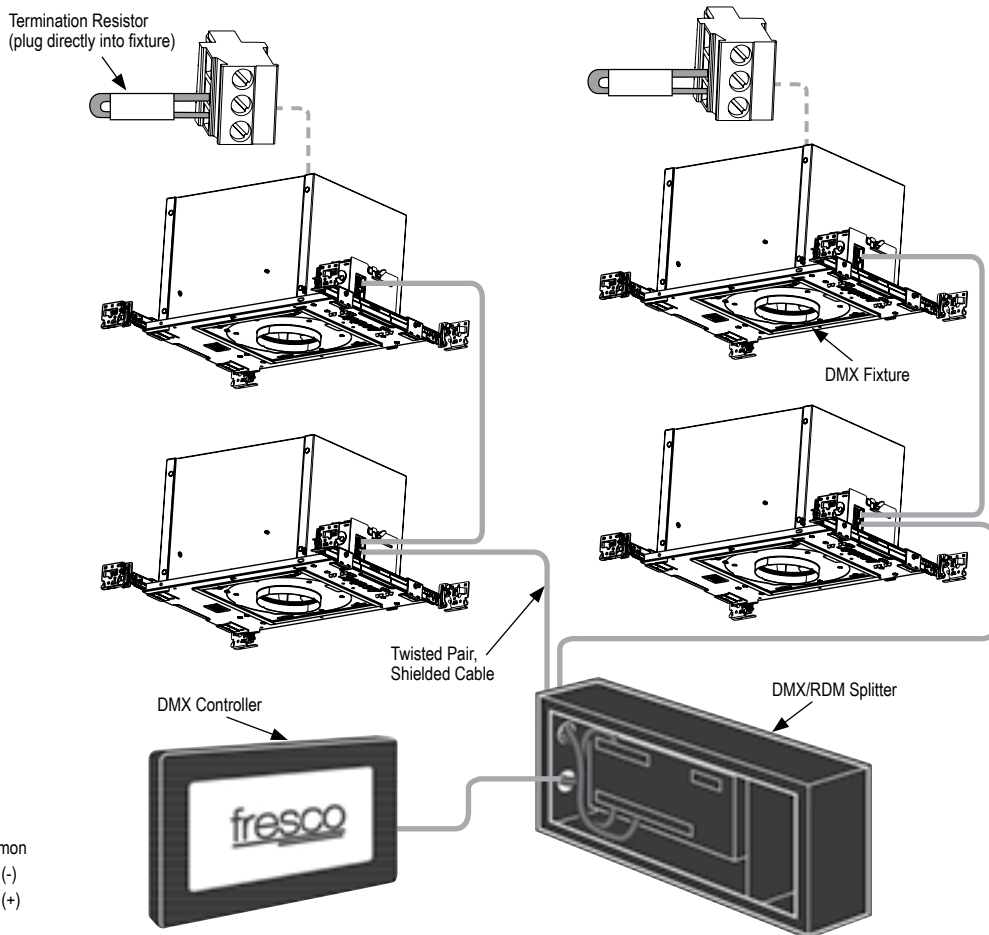

Figure 1. DMX network featuring one universe splitting into two runs of up to 30 fixtures each.
1. Determine system layout. A DMX/RDM splitter is required for >30 fixtures or if star configuration is desired. See Figure 1 for an example system layout.